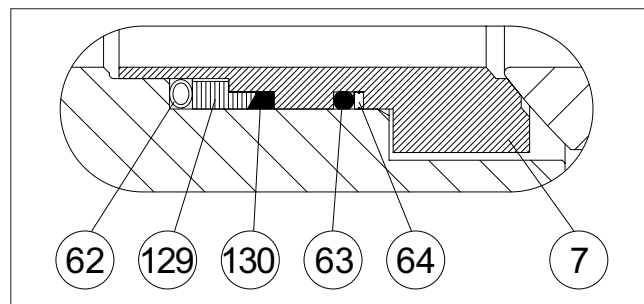

Fig. 10 R seat
- Place the back seal (O-ring) (63) into the groove in the seat. See Figure 10.
- Place the back-up rings (64) made of PTFE strips at the side of the O-ring. To ensure that the seam becomes flexible, the strip must have slanted ends.
- For easier assembly, lubricate the O-ring and back-up ring surfaces facing the seats with silicone grease or another suitable substance. Please ensure the compatibility with the flow medium. Place the backseal (130) and ring (129) on the seat.
- Place the spring (62) on the seat (7). Connect the ends of the spring.